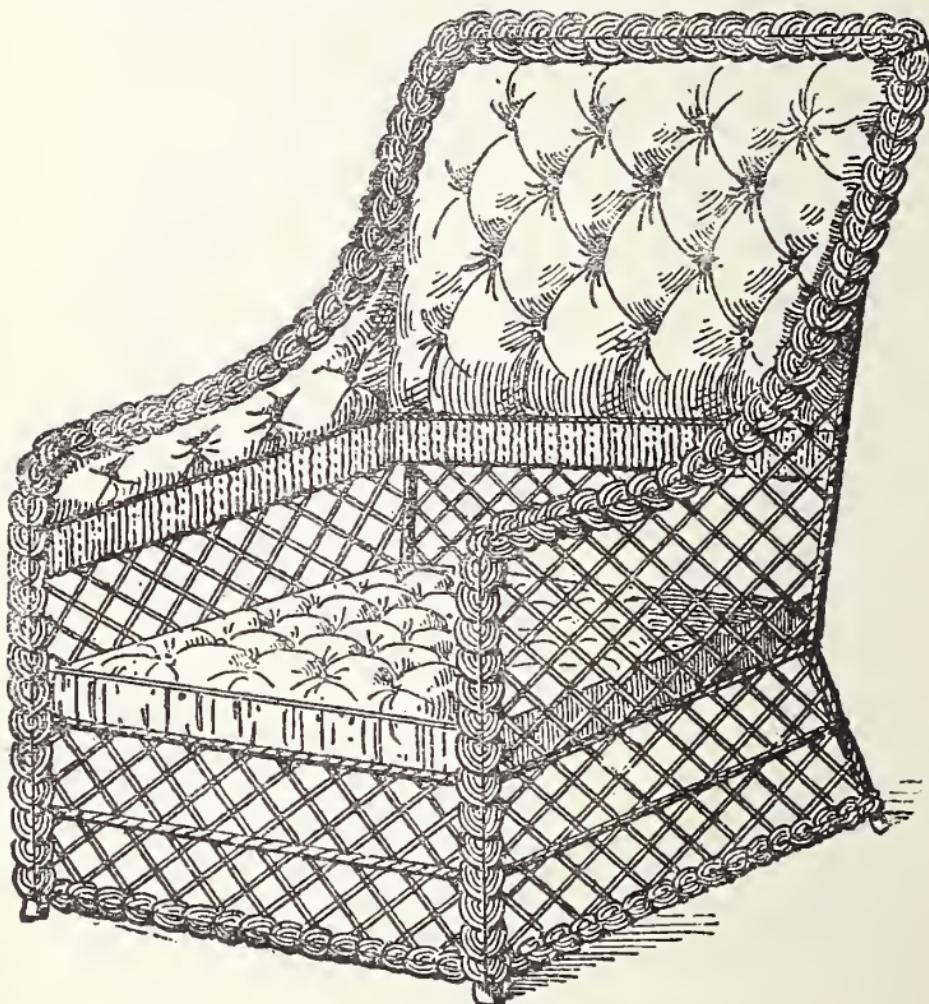

FIG. 44.
**Wicker-Chair Cushions.**—For this design (Fig. 44) cut a paper pattern of the exact shape of seat and back, and cut